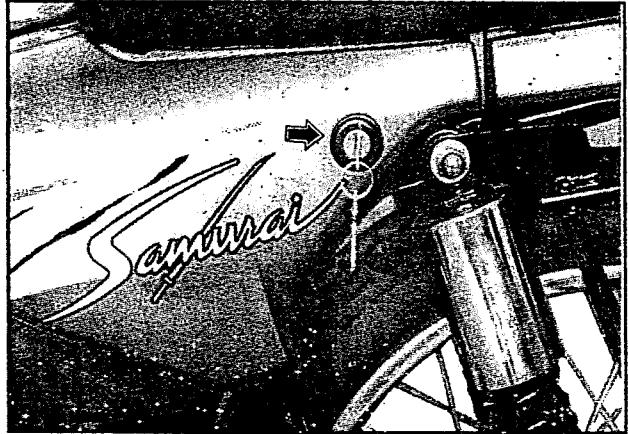
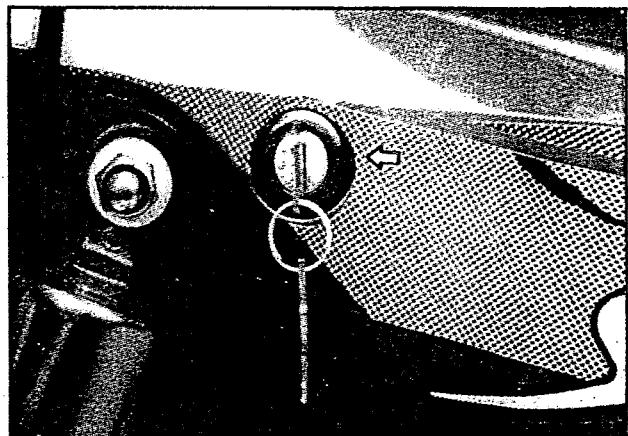

Fig 3.2
Fig 3.3
- Take off the left and right frame covers (fig 3.2 and fig 3.3)